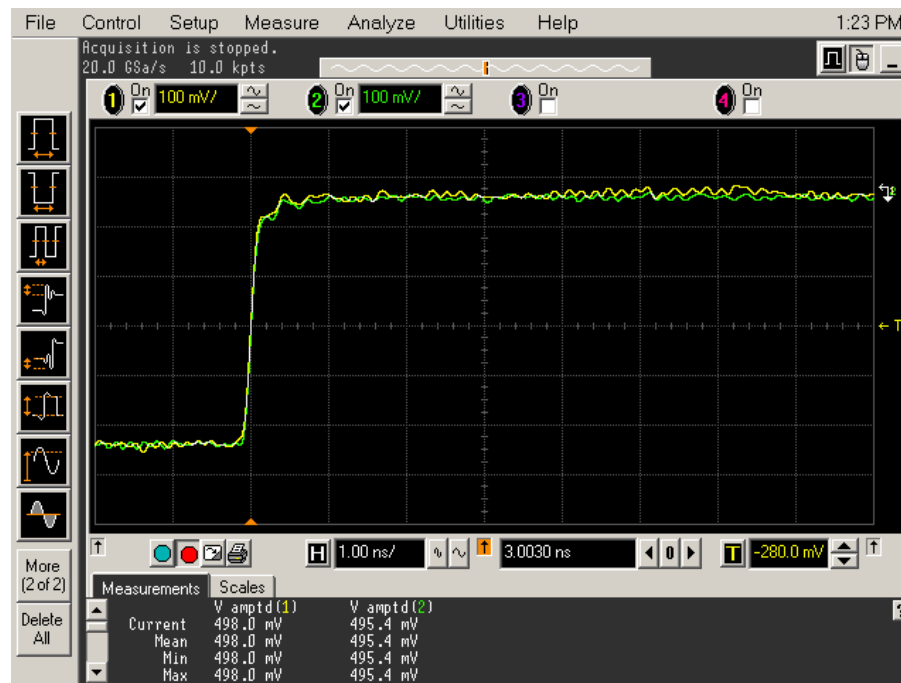

Figure 69 Calibration Probe Waveform Example
- 23 In the Acquisition Setup dialog box enable averaging. When you close the dialog box, you should see waveforms similar to that in Figure 69.